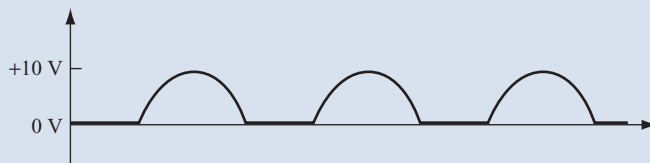
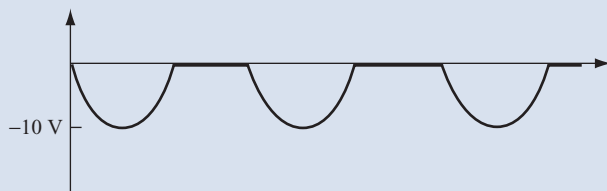

FIGURE 11.8
FIGURE 11.9
See Figure 11.8.
**6** When the diode is connected in the opposite direction, it is forward-biased and, therefore, conducts current when the input signal is negative. In this case, the diode is reverse-biased when the input signal is positive. Therefore, the output waveform is inverted from the output waveform shown in Figure 11.8.
See Figure 11.9.
Refer to the output waveforms shown in Figures 11.8 and 11.9. Do these waveforms represent positive DC voltage pulses or negative DC voltage pulses? \_\_\_\_\_
The waveform in Figure 11.8 represents positive pulses of DC voltage. The waveform in Figure 11.9 represents negative pulses of DC voltage.